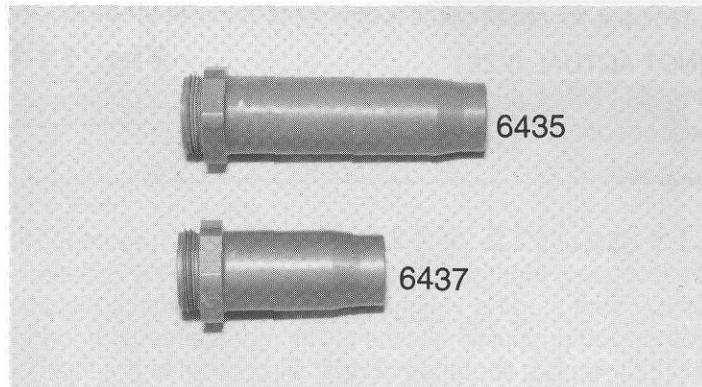

Fig. 117
□ **Figs. 117 & 118** From bag #6-9 (in the main shock bag) remove the two #6435 1.32" stroke rear hard anodized shock bodies. From bag #6-10 (in the main shock bag) remove the two #6437 .71" stroke front hard anodized shock bodies. Put a few drops of silicone oil into the bottom of each #6435 and #6437 shock body as it is being assembled. This makes installation of the internal parts easier. It is very important that we do not accidentally cut or damage the red O-rings as they are being installed.